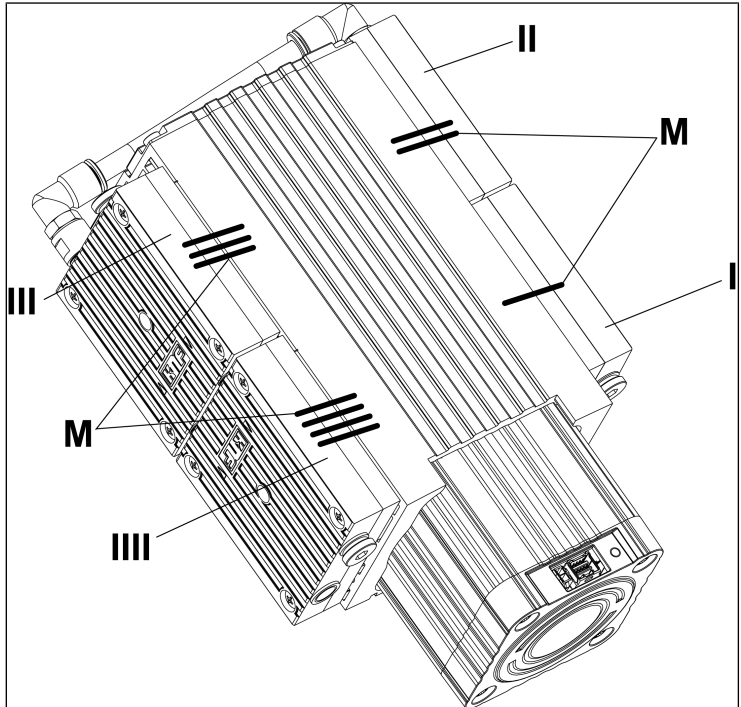

*Fig.9: Disassembly of the connection*
1. Disconnect the connection tubing (**2**/Fig. 9) by pressing and holding down the release ring (**1**/Fig. 9).
2. Carefully pull the connection tubing (**2**/Fig. 9) out of the fitting.
1. Push the connection tubing (2/Fig. 9) into the fitting as far as it will go.